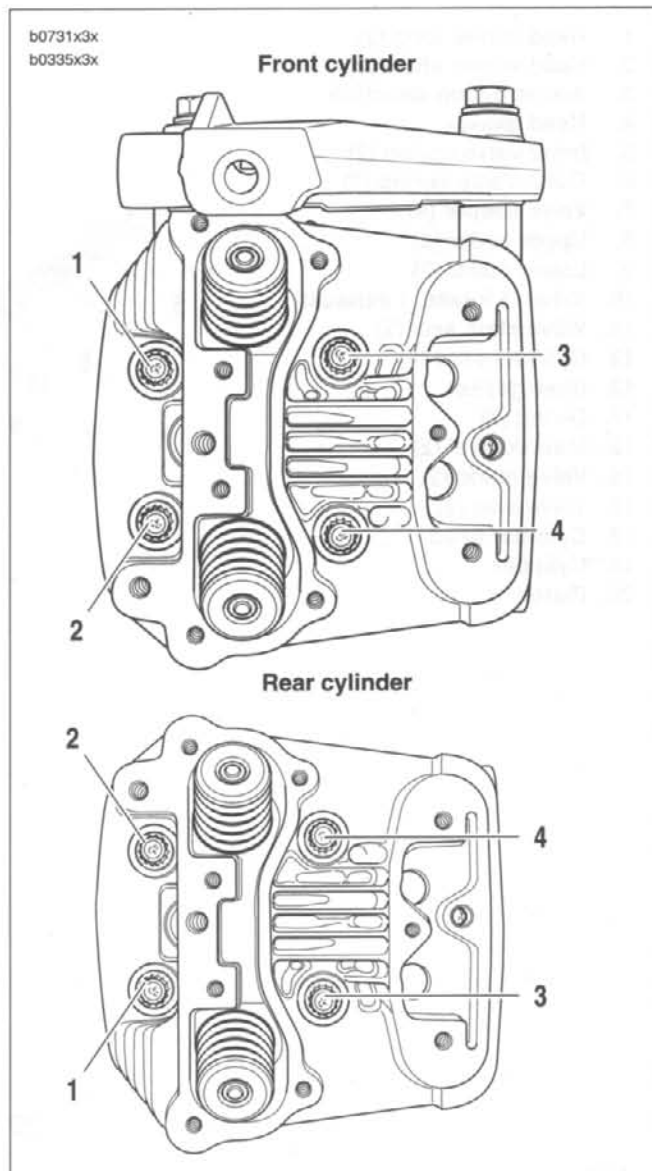

Figure 3-8. Head Screw Loosening/Tightening Sequence
Distortion to the head, cylinder and crankcase studs may result if head screws are not loosened (or tightened) gradually in the sequence shown in Figure 3-8.
10. See Figure 3-8. Loosen each head screw 1/8-turn following the sequence shown.